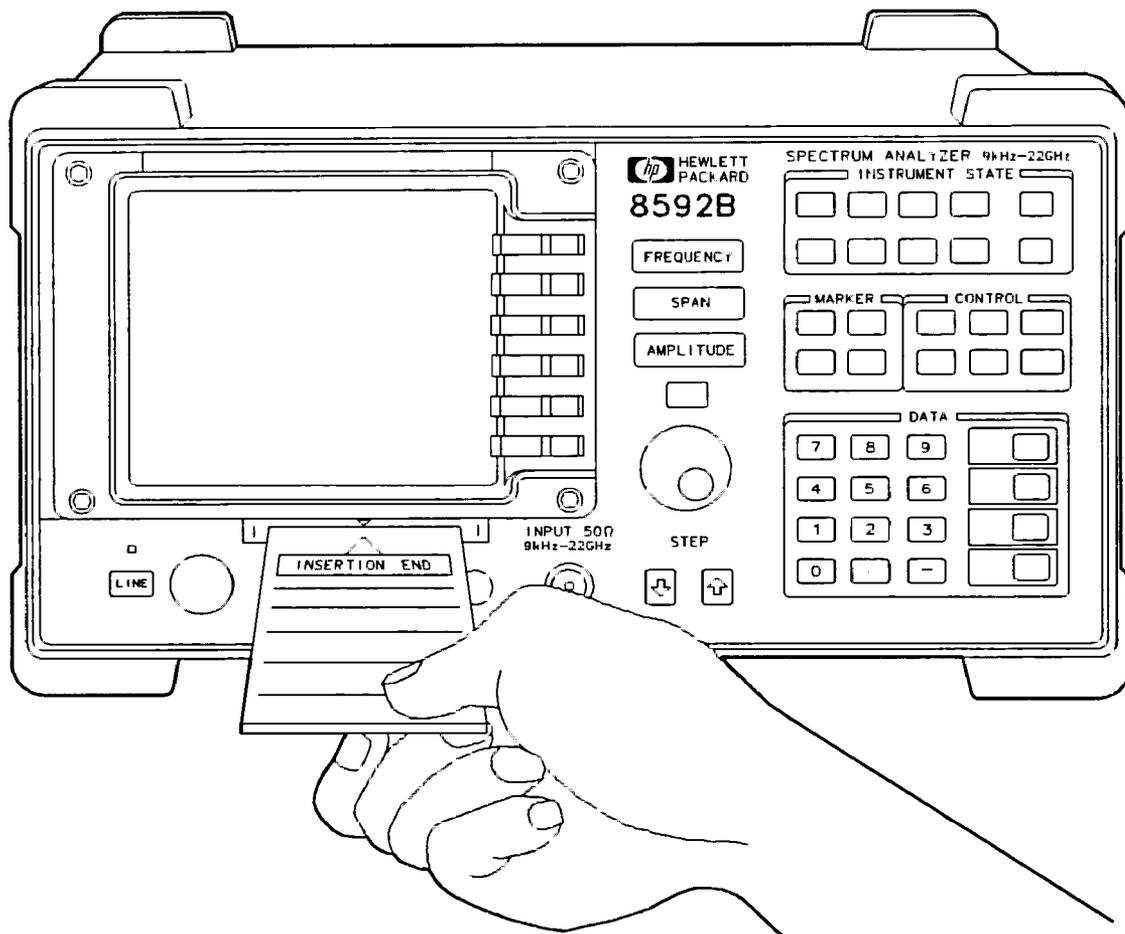

Figure 2-4. Inserting the Memory Card
2. Insert the card with its arrow matching the raised arrow on the bezel around the card-insertion slot. See Figure 2-4.